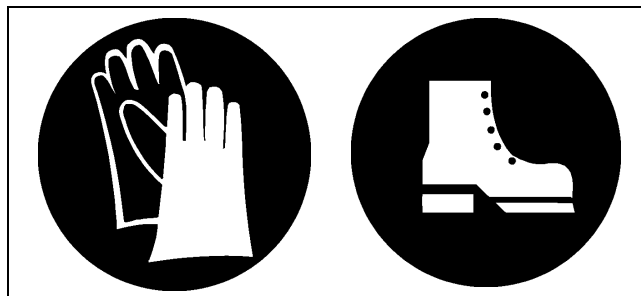

Figure 1D
3. Wear protective equipment. (See Figure 1D.)